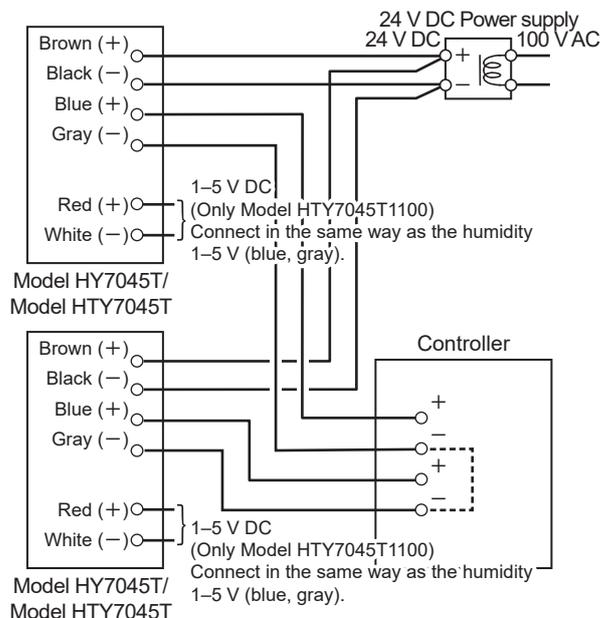

Figure 17
- (1) Attach the mounting plate to Thermoplate for open wiring.
- (2) Attach the main unit of the Wall-direct mounting kit to the mounting plate.
- (3) Connect the lead wires of the main unit and the wires from the load. Refer to Figs. 17 and 18 in ■ "Wiring."
- (4) Detach the cover of the main unit. Refer to step (4) in Wall-direct mounting.
Refer to Figs. 17 and 18 in ■ “Wiring.”
Refer to Figs. 17 and 18 in ■ "Wiring."
IMPORTANT • 24 V DC power supply can be shared. However, wire the brown wire (+), blue wire (+), black wire (-), and gray wire (-) as illustrated in Fig. 17.
Note: For the DC power supply, it is the same as installing newly. (Fig. 17.)